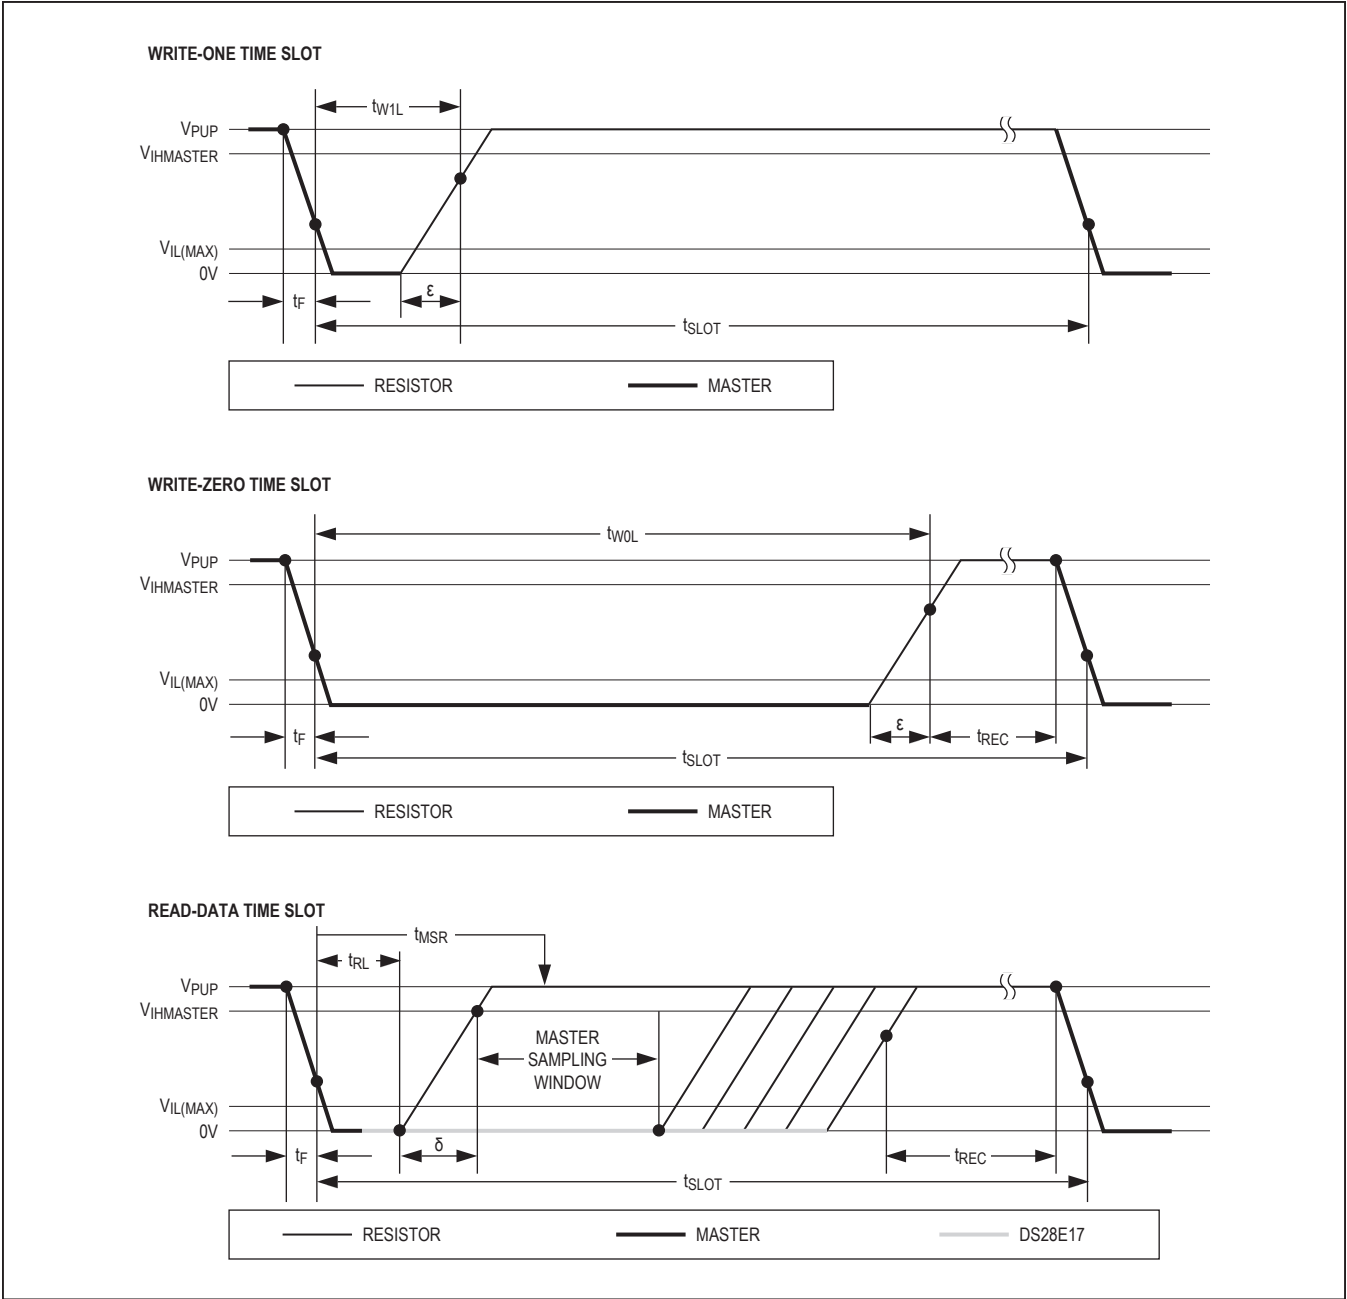

Figure 6. Read/Write Timing Diagrams
**Note 13:** δ in Figure 6 represents the time required for the pullup circuitry to pull the voltage on IO up from VIL to the input-high threshold of the bus master. The actual maximum duration for the master to pull the line low is tRLMAX + tF.
Data communication with the DS28E17 takes place in time slots that carry a single bit each. Write time slots transport data from bus master to slave. Read time slots transfer data from slave to master. Figure 6 illustrates the definitions of the write and read time slots.